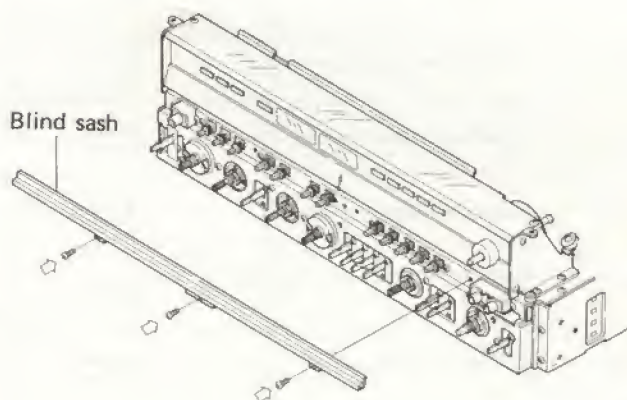

Fig. 36
2. Remove the three screws to detach the blind sash (Fig. 36).